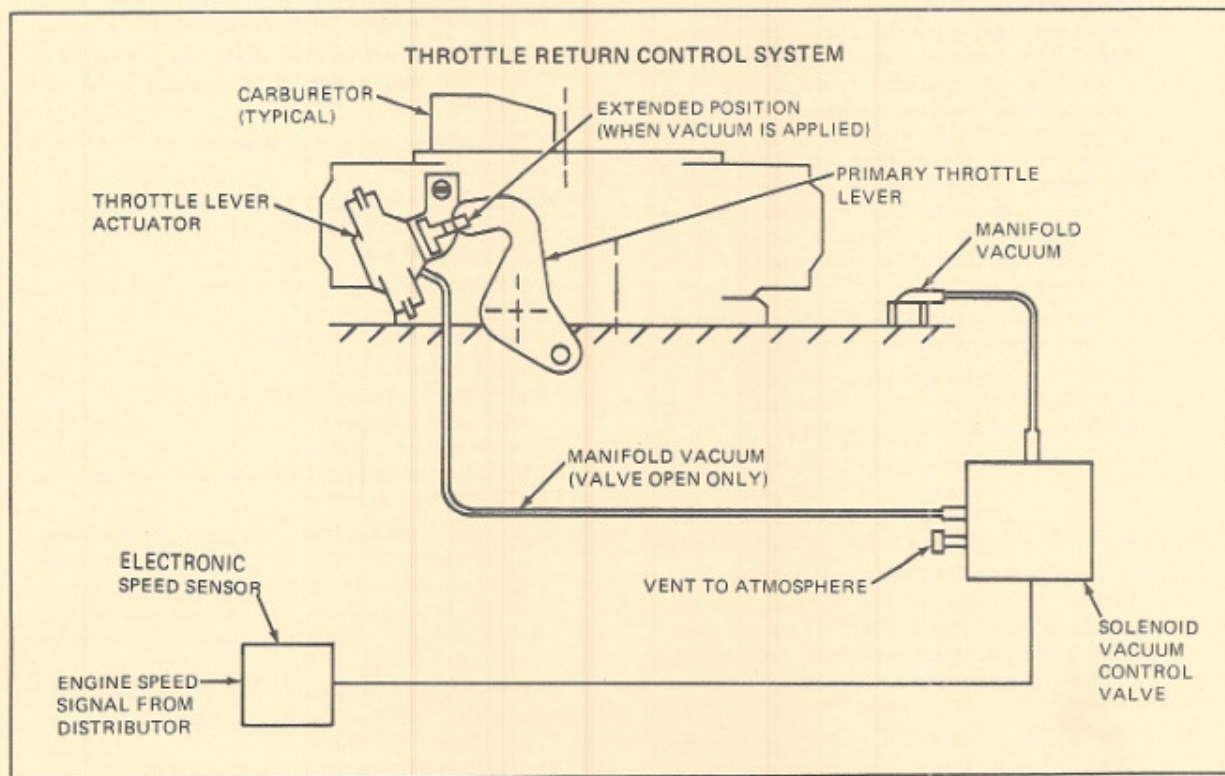

Figure 62 — Throttle Return Control System
**GENERAL DESCRIPTION** — The TRC system used on heavy emission vehicles consists of three major components (see figure 62).
2. Remove the front wheels (see figure 62).